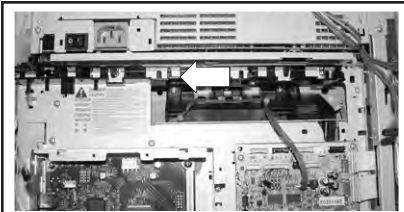

Figure 10. Removing the upper cable holder by shifting it left and out.
- Shift the upper cable holder, shown in Figure 10, left and pull the holder free and out.